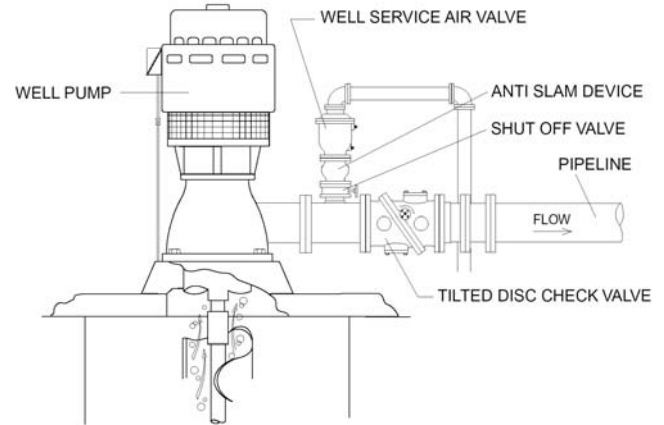

Figure 5. Vertical Pump Installation
1. **Type of Pump:** A horizontal pump with positive suction pressure does not need a Well Service Air Valve. However, an Air Release Valve is often installed on the top of the volute to automatically keep the pump free of air. All Vertical pumps require Air Valves or air will be forced into the pipeline (Figure 5).